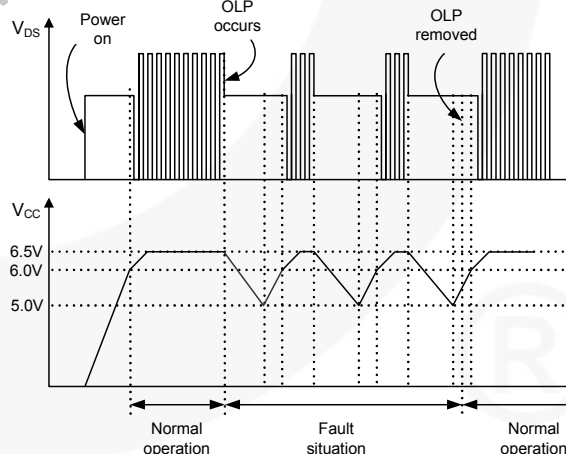

Figure 17. Auto Restart Protection Waveforms
3. Protection Circuits: The FSQ500L has two self-protective functions: overload protection (OLP) and thermal shutdown (TSD). While OLP is implemented as auto-restart mode, there is no switching when TSD triggers. Once the overload condition is detected, switching is terminated, the senseFET remains off, and HV/REG turns off. This causes V_{CC} to fall. When V_{CC} falls below the under voltage lockout (UVLO) stop voltage of 5.0V, the protection is reset and the startup circuit charges the V_{CC} capacitor. When V_{CC} reaches the start voltage of 6.0V, the FSQ500L resumes its normal operation. If the fault condition is still not removed, the senseFET and HV/REG remain off and V_{CC} drops to V_{STOP} again. In this manner, the auto-restart can alternately enable and disable the switching of the power senseFET until the fault condition is eliminated, as shown in Figure 17.